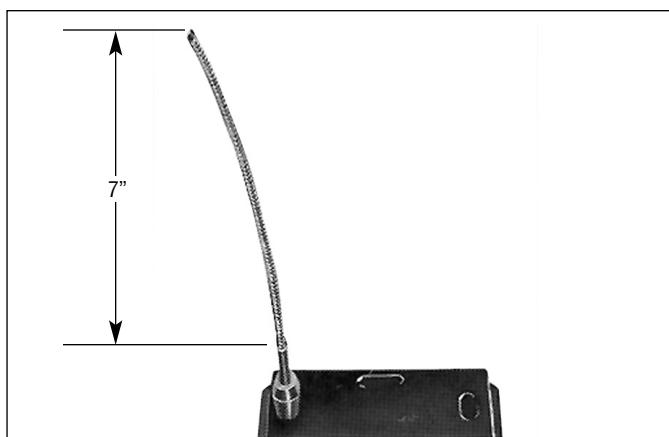

Figure 5
Score the outer insulation seven (7) inches from the end of cable. Remove the jacket to expose the metal braid. See Figure 5.